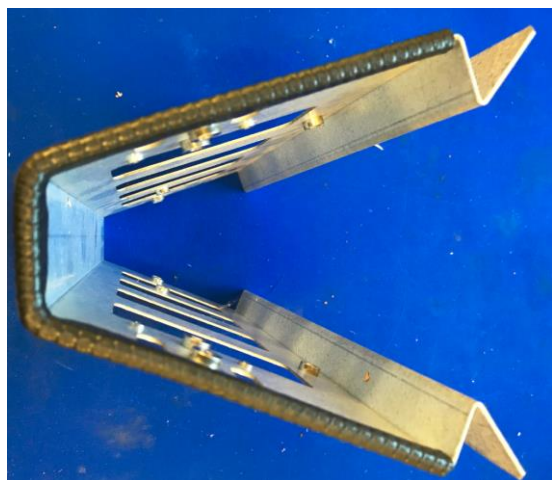

Figure 4: Example of Back to Back and triple Stand off Brackets
- Before seeking a network adjustment for no space on the Pole, the CP must have used best endeavours to use all available space, including the provision / use of Back to Back space saver brackets. Examples of a Back to Back brackets are shown at Figure 4 below and further information on these can be obtained from the (SA).